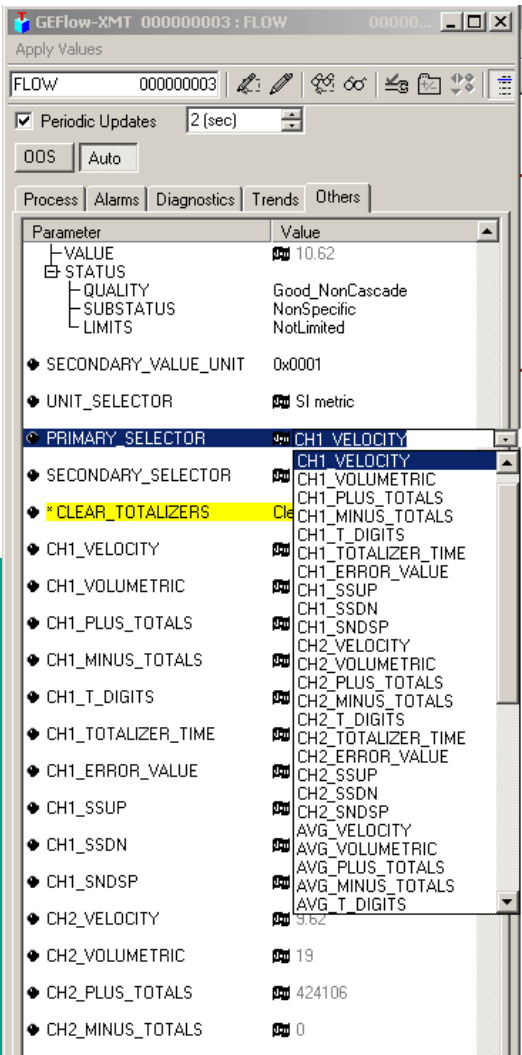

Figure 41: Primary selector drop down list
2. Select the **others** tab and open the drop down list for the PRIMARY_SELECTOR and SECONDARY_SELECTOR (see figure 41).
3. Choose the unit from the list (see figure 41).